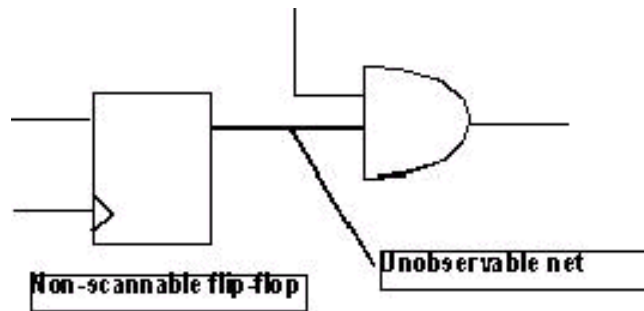
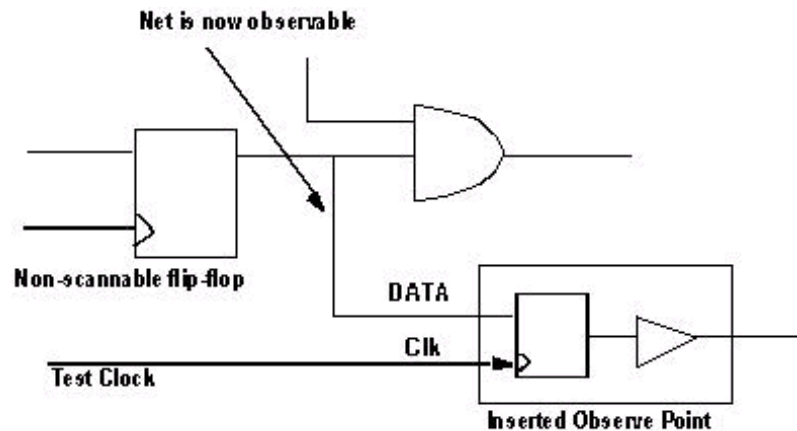

FIGURE 73. Unobservable Net
FIGURE 74. Observable Net
- For unobservable nets (as shown in Figure 73), an observe point is inserted. The observe point is a module (the module structure is shown in Figure 74) having a hanging output.